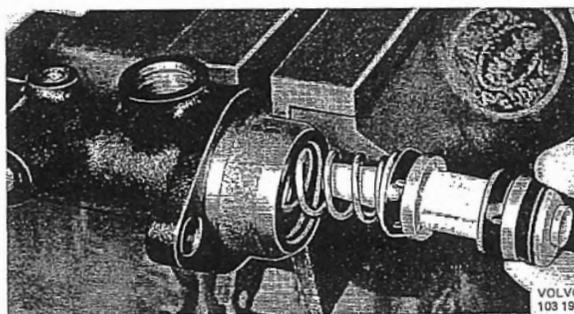

Fig. 5-50. Fitting secondary piston
2. Coat brake fluid on the cylinder and dip the piston and seals in brake fluid before fitting. Fit the spring (1) and thrust washer (2) on the secondary piston and fit the piston, see Fig. 5-50. Observe care when inserting the seals in the cylinder.